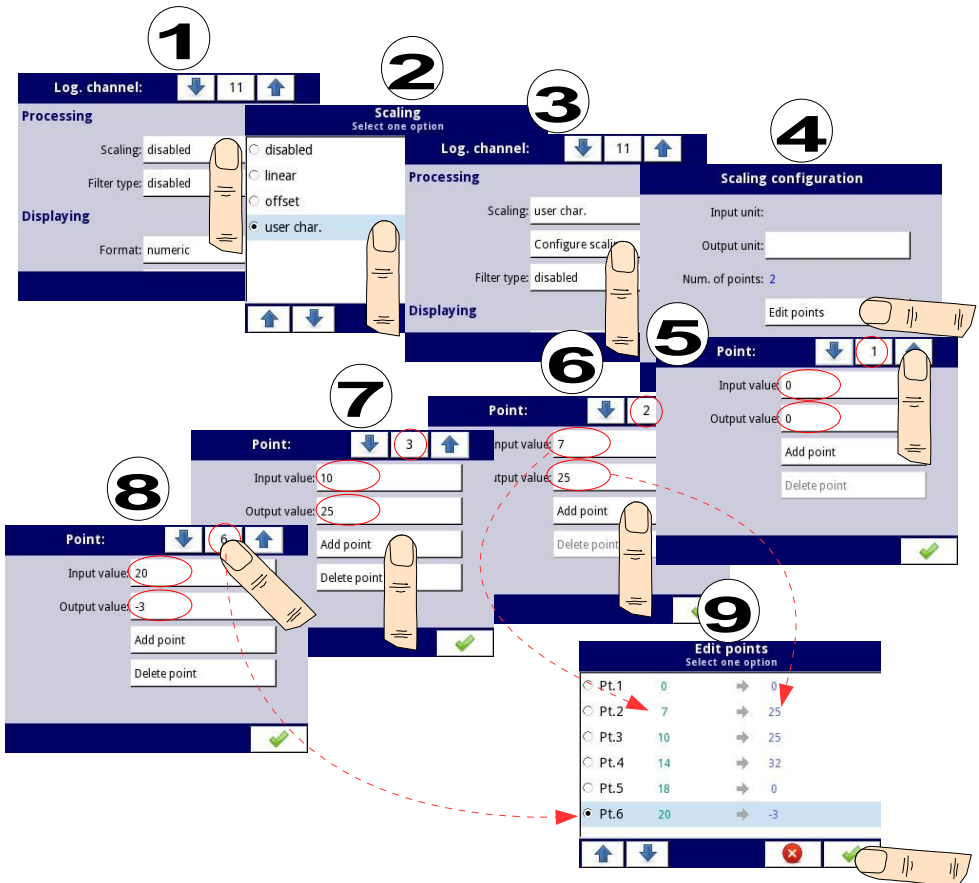

Fig. 7.35. Configuring the user characteristic
1. Press the button next to the **Scaling** label and select **user characteristic** option (point (1) and (2) in **Fig. 7.35**).
2. Press the **Configure scaling** button and enter the **Scaling configuration** menu (point (3) in **Fig. 7.35**).
4. Press the **Edit points** button (point (4) in **Fig. 7.35**) and go to **Edit points** menu.
For **Point 1** set input and output value (point (5) in **Fig. 7.35**).
5. Switch to **Point 2** by using the arrow keys and there also set the value of input and output (point (6) in **Fig. 7.35**).
8. At the end we check all the points defined by clicking the middle button between the arrows in the upper right corner of the screen (point **(8)** and **(9)** in Fig. 7.35).